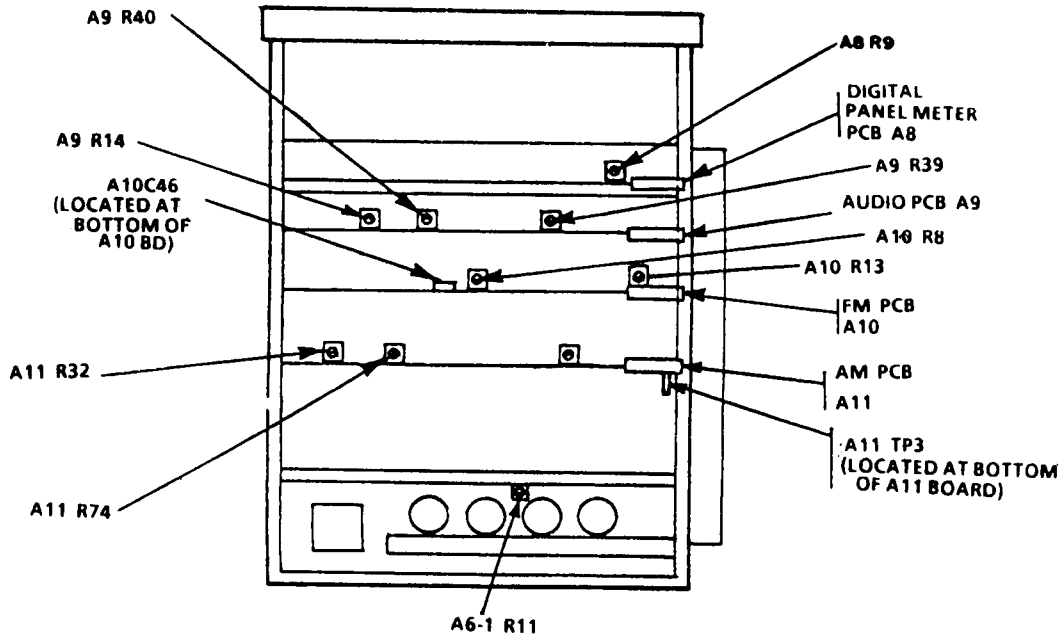

Figure 2. Test instrument top view - adjustment location.
- (1) Adjust A8R9 (figure 2) until TI indication is same as multimeter indication (R).
- (2) Adjust A9R14 (figure 2) for same TI display recorded in a (5) above (R).
- (3) Adjust A9R39 (figure 2) for a 0.0000 indication on multimeter (R).
- (4) Adjust A9R40 (figure 2) for a 0.0000 indication on multimeter (R).
(1) Repeat a (3) through (6) above.
(2) Set synthesized signal generator FM to on and adjust synthesized signal generator controls for a 10-kHz FM Deviation indication on the measuring receiver.
(3) Adjust A10R8 (figure 2) for a TI indication of 10 kHz + (residual FM recorded in a (6) above) (R).
(1) Adjust A11R32 (figure 2) for a TI display indication of 10.00 (R).
(2) Adjust measuring receiver controls to measure 100% AM modulation.
(3) Adjust A11R74 (figure 2) until TI display and measuring receiver display agree (R).